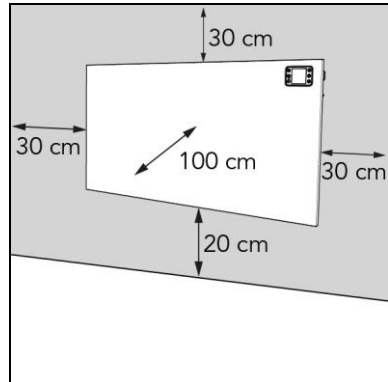

Figure 11
2. Place the device with a minimum distance (Figure 11) of: